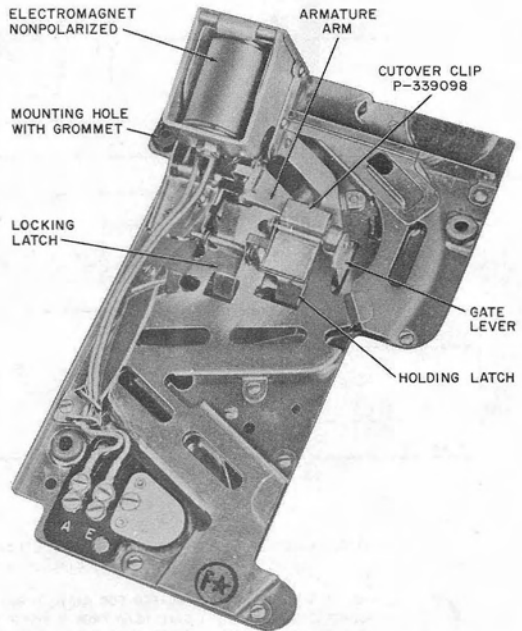

**Fig. 25—Coin First Gong Signal and Chute Assembly**
**5.10** Generally, the gong signal and chute assembly (Fig. 25) consists of a coin chute, including electromagnet, and a gong assembly with signal transmitters.
**5.21** The gong assembly is mounted on the coin chute, as shown in Fig. 25. It consists of a supporting bracket on which are mounted the two gongs and their associated signal transmitters. The solid gong for nickel and dime signals and one signal transmitter are mounted on a metal plate. The cathedral gong for quarter signals and the second signal transmitter are mounted on a bracket. The two units are insulated against vibration from each other and from the coin chute by use of rubber grommets at all mounting points. The support bracket also provides a guide to protect the switchhook gate-operating arm from damage when the upper housing is assembled on the backplate.